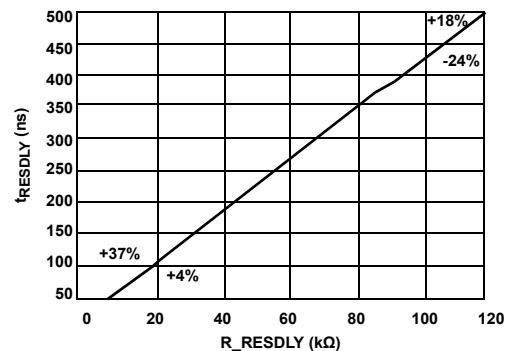

FIGURE 10. R_{RESDLY} vs $RESDLY$
- Figure 10 illustrates the relationship of the value of the resistor (R_{RESDLY}) and the resonant delay (t_{RESDLY}). The percentages in the figure are the tolerances at the two end points of the curve.